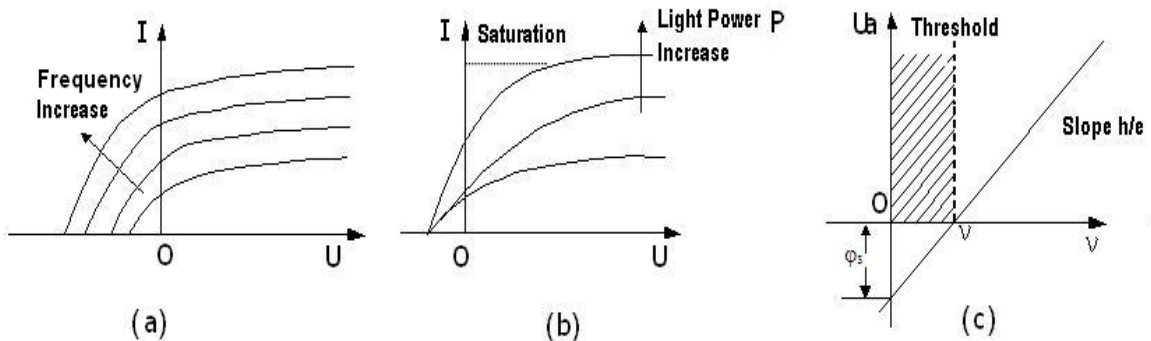

Figure 1 Dynamic energy of photoelectrons *versus* light frequency (a), photocurrent *versus* light power (b), and cutoff frequency of photoelectric effect (c)
Equation (1) gives the maximum kinetic energy of the photoelectron without any obstruction in space. The higher frequency of the illuminating light is, the greater of the maximum kinetic energy of the photoelectron will be resulted, as seen in Fig. 1 (a). Considering the certain initial kinetic energy of the photoelectron, there may be some photoelectrons escaped from the metal surface (cathode) to form a photo-current even when no positive voltage is applied between the anode and the cathode. When such voltage is reversed at a certain value, photoelectrons can no longer reach the anode and hence the photo-current is zero at this time, as shown in Fig. 1 (b). This negative potential  $U_s$  is called as the cutoff voltage of the photoelectric effect, described by:
Equation (4) shows that the cutoff voltage  $U_s$  is a linear function of the frequency of incident light,  $\nu$ . Obviously,  $U_s=0$  when  $\nu=\nu_0$ , under such condition, there is no photocurrent. The slope of the straight line as described by Equation (4) is a constant  $k (= h/e)$ , as shown in Fig. 1 (c), thus
By illuminating a phototube with different light frequencies  $\nu$ , corresponding  $I$ - $V$  curves of the phototube can be acquired, so that the corresponding cutoff voltages  $U_s$  of the phototube can be obtained. By plotting  $U_s \sim \nu$  curve, an approximately straight line should be seen, as predicted by Einstein's photoelectric equation. Hence, Planck's constant  $h$  can be calculated from the slope  $k$  of the line using Eq. (5). In addition, the cutoff voltage  $U_0$  of the cathode material can be found from the intersection of the  $I$ - $V$  curve with the horizontal axis of the plot. Thus, the cutoff frequency  $\nu_0$  can be achieved from  $U_0$ , which equals the electron escape potential  $\Phi_s$ , as seen in Fig. 1 (c).